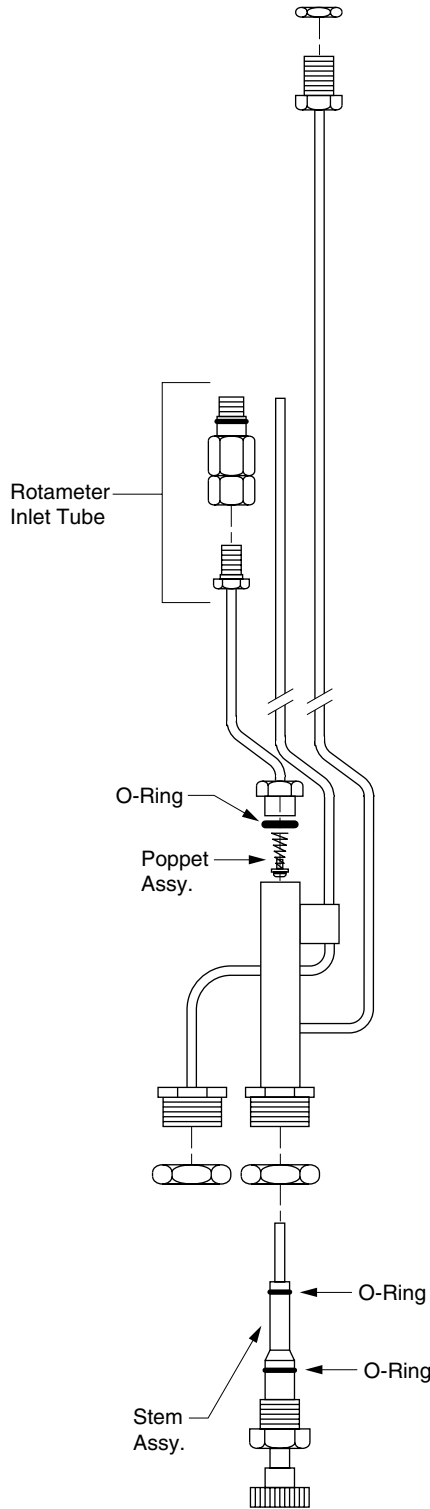

Figure 3 - Purge Valve Assembly
- a. Refer to **Figure 3** Disconnect inlet tube from Rotameter connection inside of indicator housing. Remove inlet tube assembly from top of purge valve body.